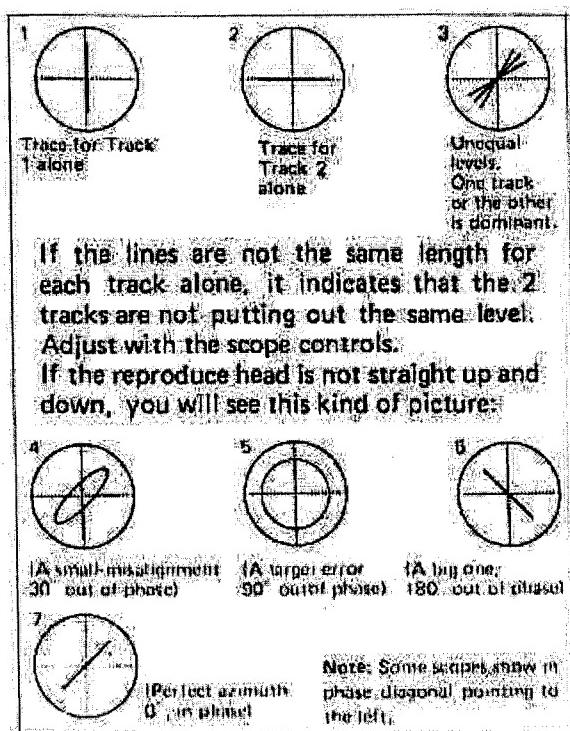

Fig. 9-7-7. Phase Shift.
5. Load the reproduce alignment test tape to reproduce at low speed. A scope display showing phase relations between both channels will be obtained as shown in Fig. 9-7-7.